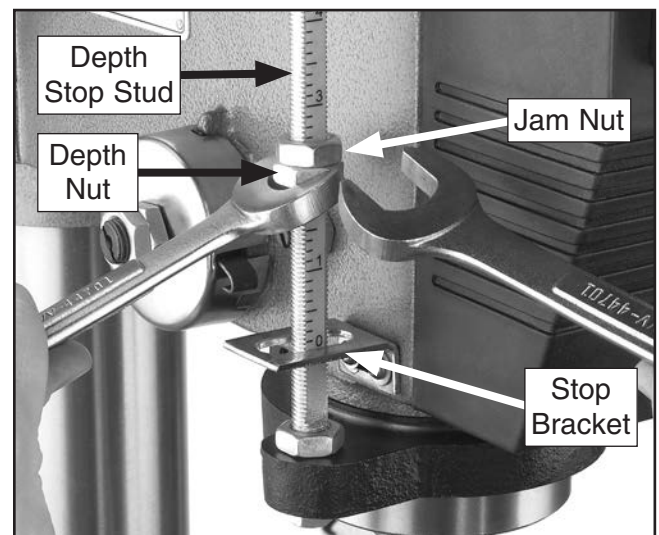

Figure 33. Depth-stop components.
The depth stop consists of a stud attached to the quill with two hex nuts that can be lowered or raised on the stud so the lower nut (depth nut) hits a stop bracket when the drill bit is lowered. The upper hex nut (jam nut) is then used to tighten against the depth nut to secure it in place so it doesn't move with repeated operations. **Figure 33** shows the various components of the depth stop.
2. Thread the depth nut down against the stop bracket (see **Figure 33**).